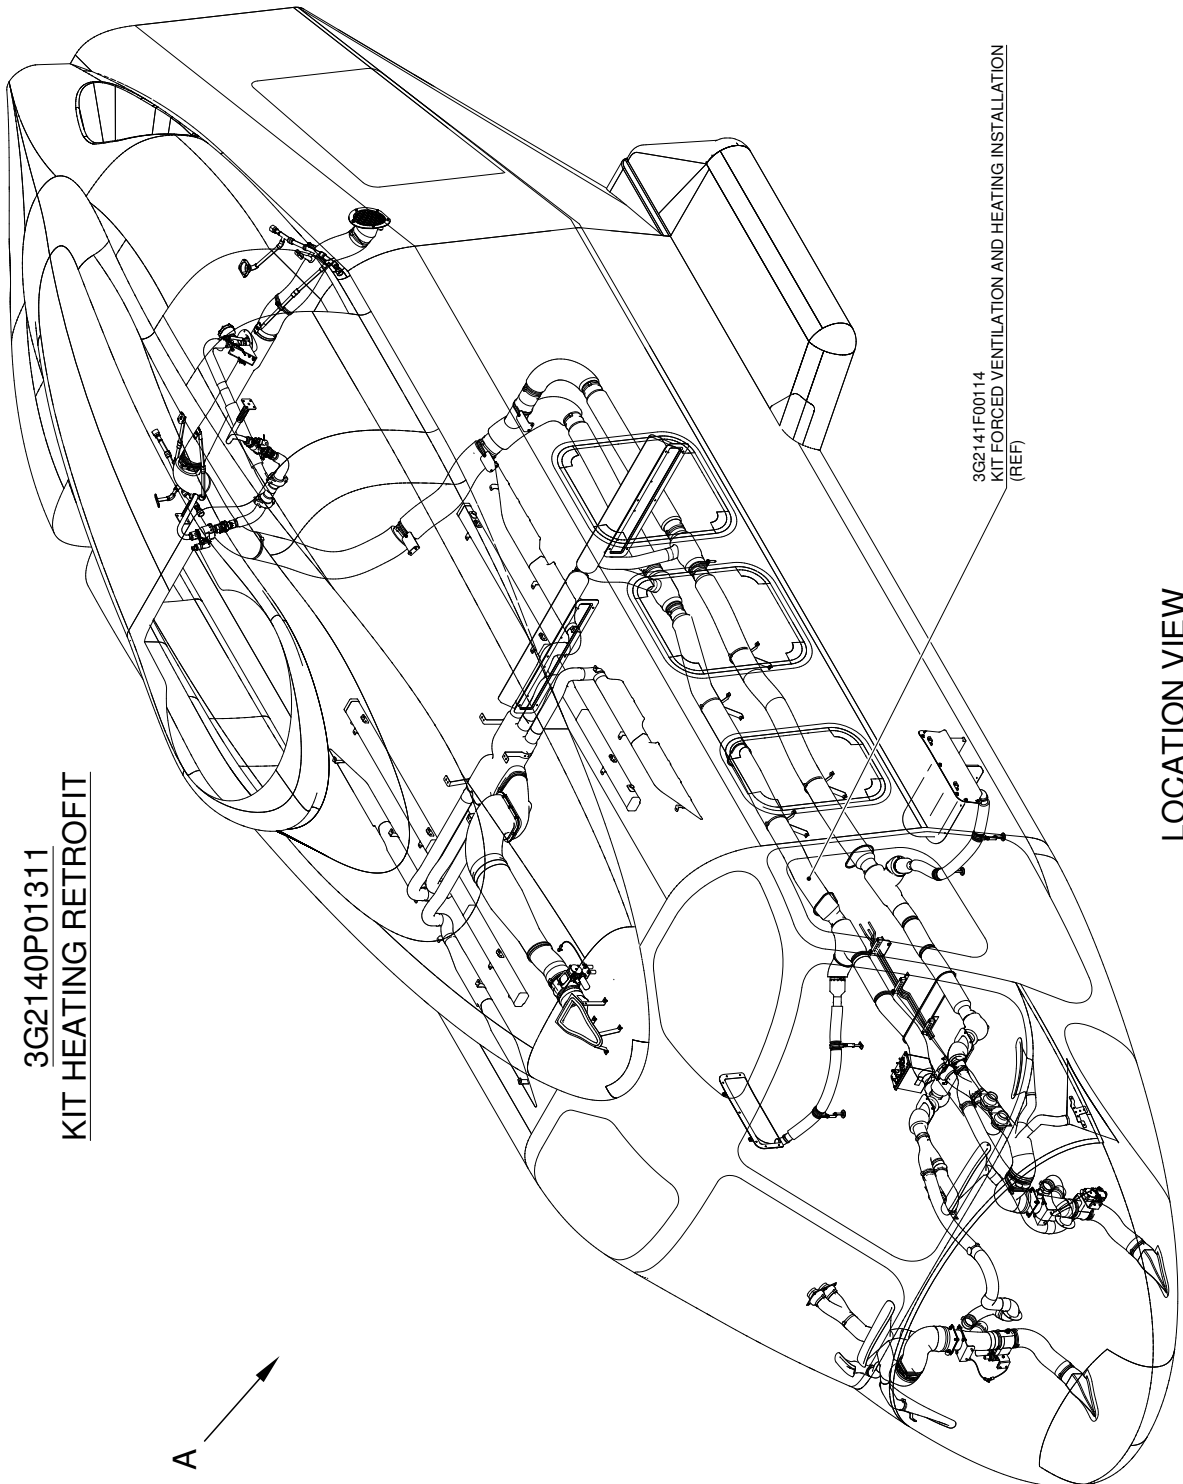

Figure 1
3. With reference to Figures 1 thru 3, perform the installation of kit heating retrofit P/N 3G2140P01311 as described in the following procedure: